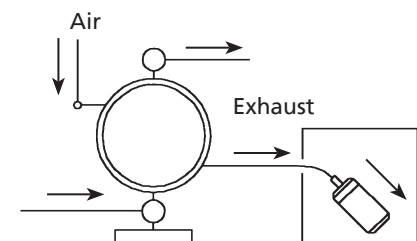

Figure 9
- Exhaust should be directed outside, not into the fluid in which the pump is submerged. For information on how to arrange the exhaust, See NOTE, page 7 – Arranging outside exhaust and Figure 9 below.